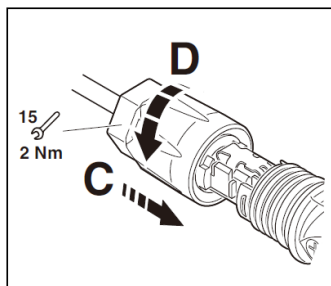

Figure 5-16
6. Push the insert into the sleeve (Figure 5-16, C).
7. Tighten the cable gland to 2 Nm (Figure 5-16, D). Use a suitable and calibrated torque wrench of size 15. Use an open-jaw wrench, size 16, to hold the connector in place.